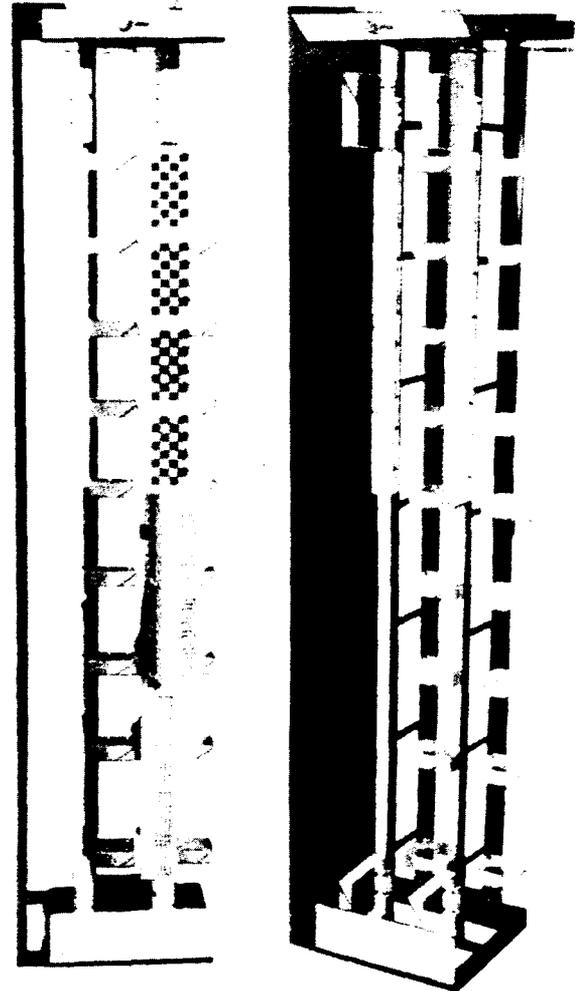

Figure 9—SSLPDF (Single-Sided, Low Profile Distributing Frame)
**4.11** The basic SSLPDF unit (Figure 9) provides two vertical uprights on 8-inch centers in a single-sided arrangement 16 inches wide by 15 inches deep. Standard heights available are 7 feet, 7 feet 6 inches, 9 feet, and 11 feet 6 inches. (The 9-foot and 11-foot 6-inch options are designed to accept apparatus only to the 7-foot 6-inch level.) The standard black and ivory colors will blend with nearly any office color scheme.